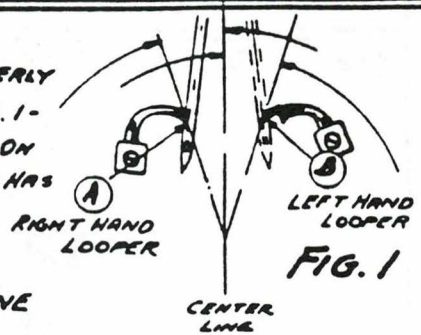

FIG. 1
THE LOOPERS (A) AND (B) WHEN PROPERLY ADJUSTED WILL ASSUME THE POSITIONS IN FIG. 1 - WITH THEIR POINTS ON CENTER LINE OF NEEDLE ON ALTERNATE STROKES AFTER THE NEEDLE BAR HAS RISEN  $\frac{3}{32}$ " FROM ITS LOWEST POSITION.